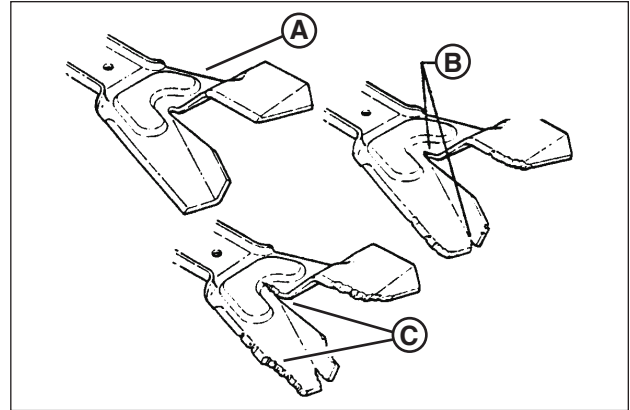

Figure 19: Ninja blade wear limits
1. Inspect the blade (**Figure 19**) frequently for signs of excessive wear or damage: